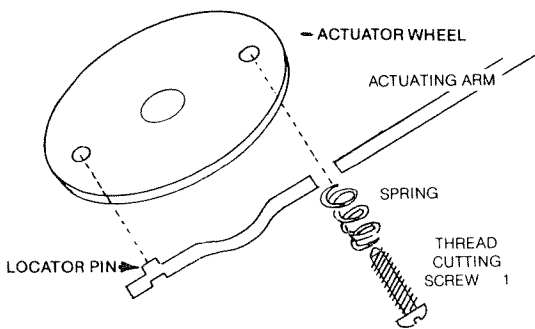

Fig. 6 — Assembly of arm to operator wheel
1. Assemble the arm as shown in Fig. 6.